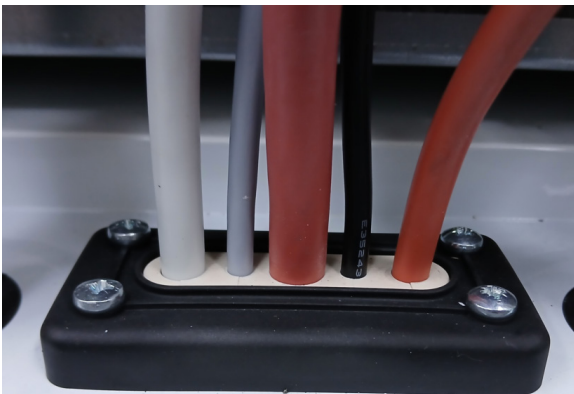

Fig. 65 : Heat Pump Module Wire Looms
9. All the heat pump module cables need to be removed from the wiring box to allow the heat pump module to be removed. Best practice is to work right to left. See Fig 65.